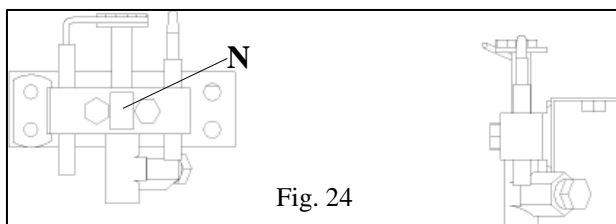
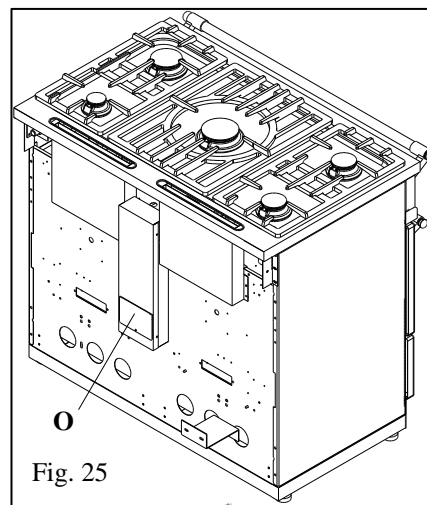

Fig. 24
Fig. 25
Turn ring **N** to fully open for Butane/Propane, to half open for natural gas (Figures 24)
- Remove access door **O** (Fig.24: all gas range) or **P** (Fig. 25: gas and electric range).